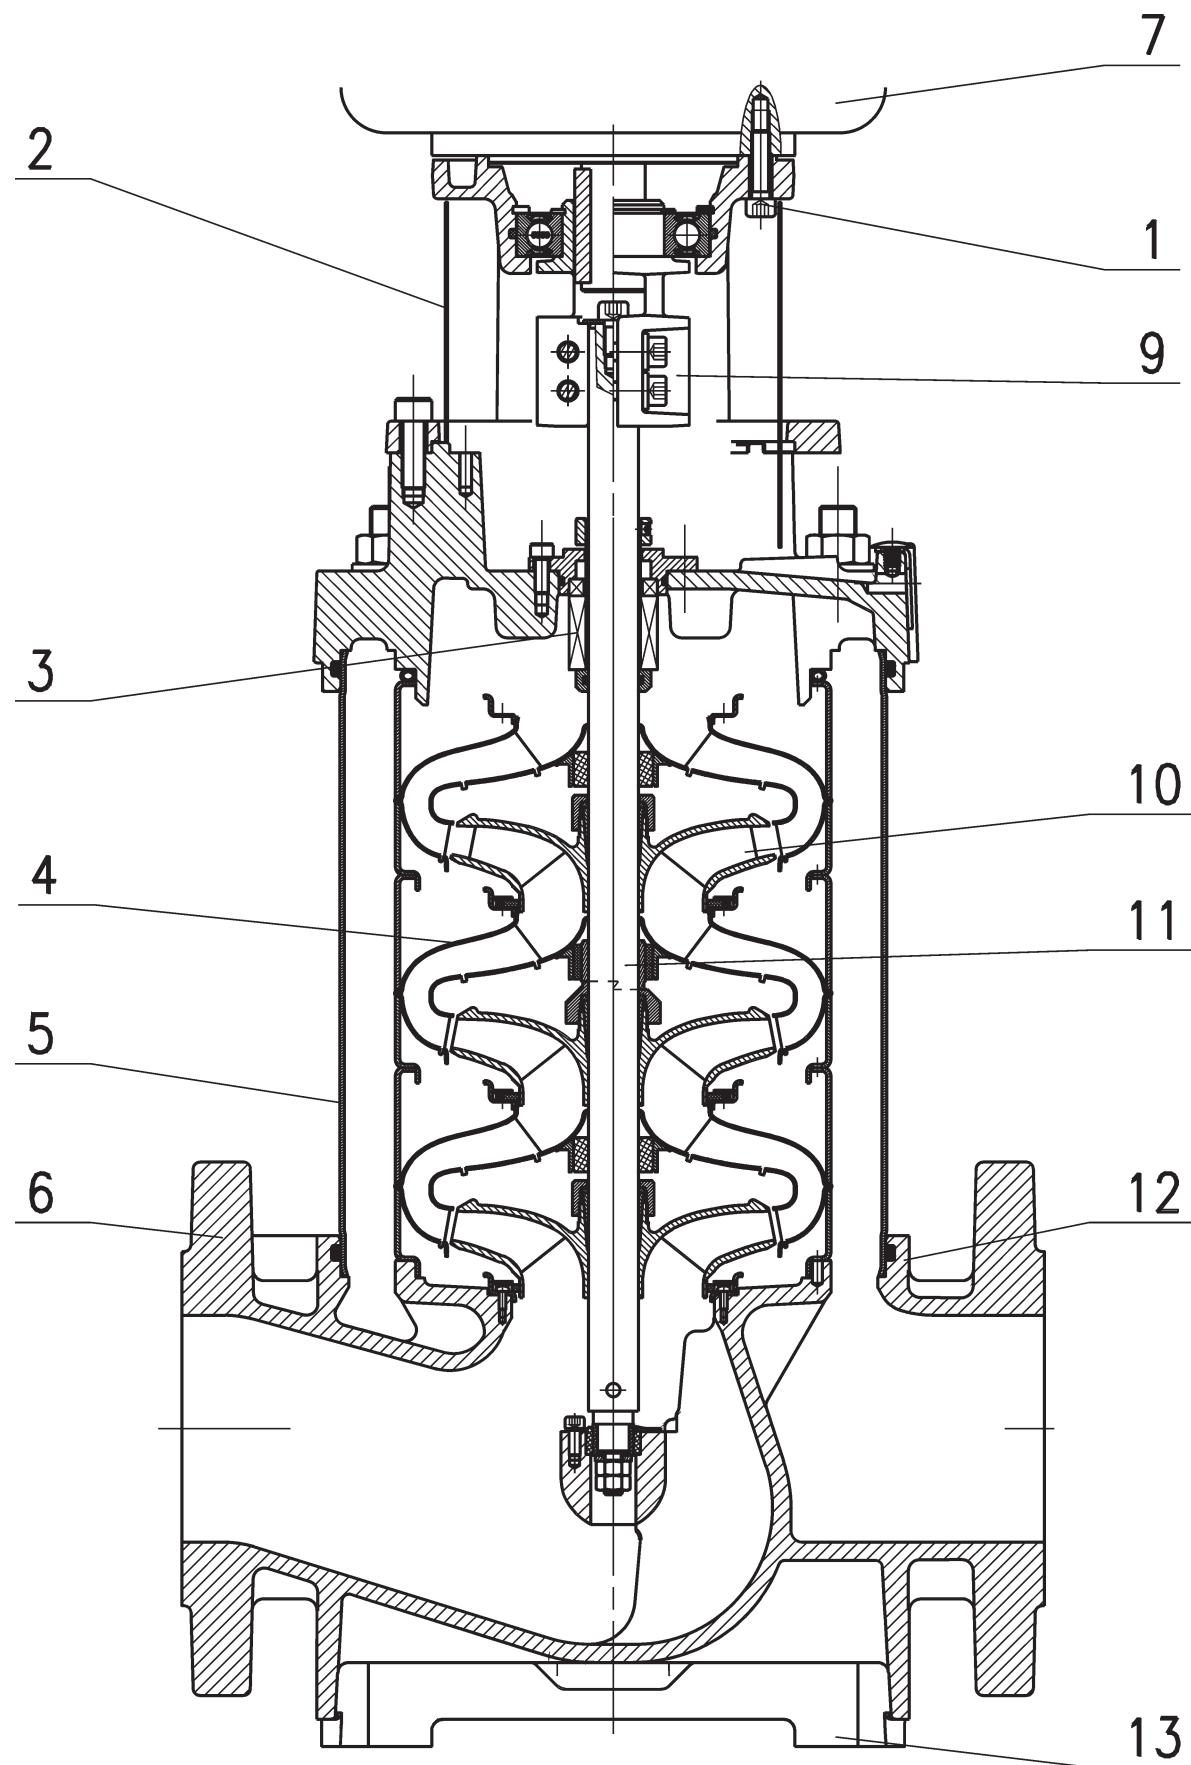

Fig. 2
- Install the pump in an easily accessible place to facilitate inspection and disassembly. Always install the pump exactly perpendicular on a sufficiently heavy concrete base (Fig. 2, 3). Fit a vibration absorber between the base and the floor.
- In the case of heavy pumps fit a hook (Fig. 2, Pos. 12) or eye with a suitable load-bearing capacity (total weight of pump: see catalogue/data sheet) vertically above the pump, to which a hoist or similar device can be attached when maintaining or repairing the pump. Allow for a free size when completed of min. 200 mm.